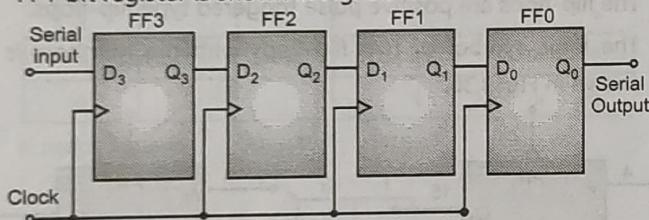

Fig. 3.37 : 4-Bit register
- A 4-bit register is shown in Fig. 3.37.
- As shown in Fig. 3.37 four positive edge triggered D type flip-flops are used.